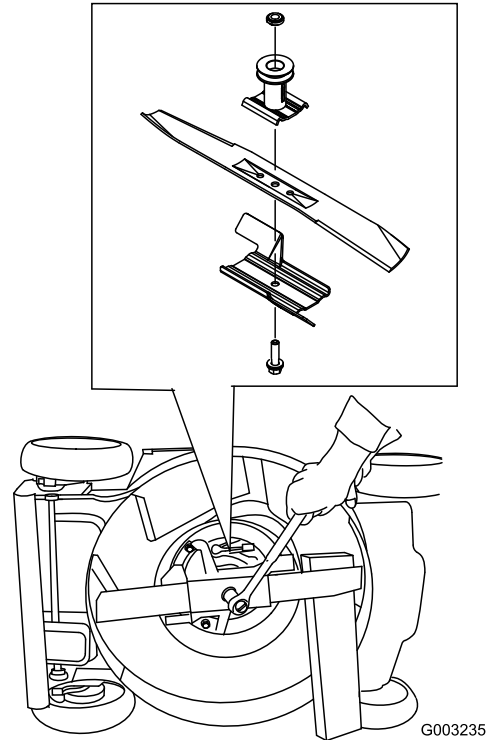

Figure 40
3. Use a block of wood to hold the blade steady (Figure 40).